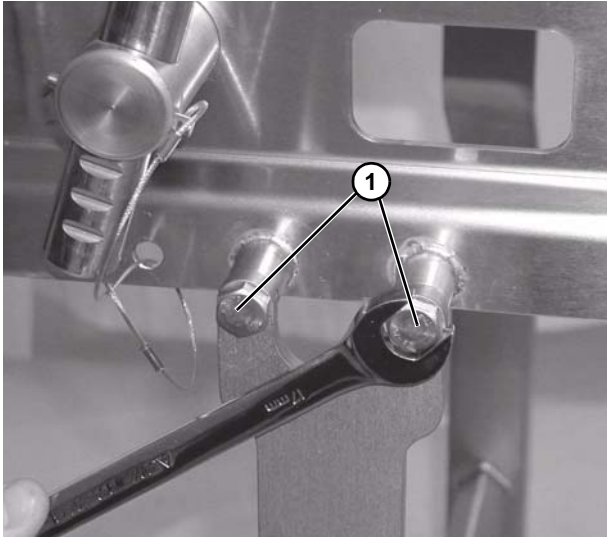

Figure 33
2. Attach the stands to the frame (Figure 33).
3. Tighten hex screws (Figure 33, item 1).